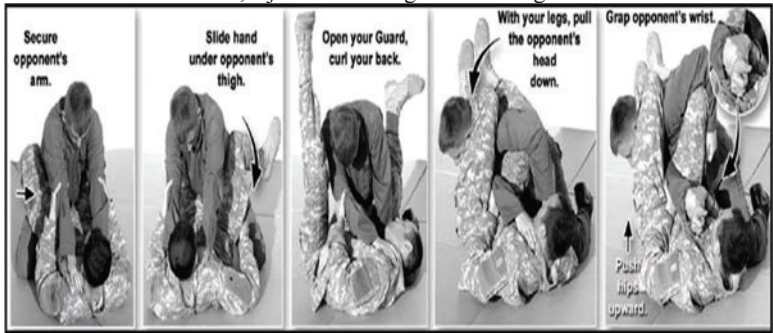

Figure 071-COM-0512-13. Straight Arm Bar from the Guard.
(9) Secure your opponent's wrist with both of your hands in Thumb Grips.
(10) Keep his thumb pointed skyward to achieve the correct angle.
(11) Pull your heels tight to your buttocks, and pinch your knees together tightly with the upper arm trapped between your knees, not resting on your groin.
(12) Apply steady pressure by trapping your opponent's wrist on your chest, and arching your hips skyward.
e. Achieve the Straight Arm Bar from the Guard. (Figure 071-COM-0512-13)